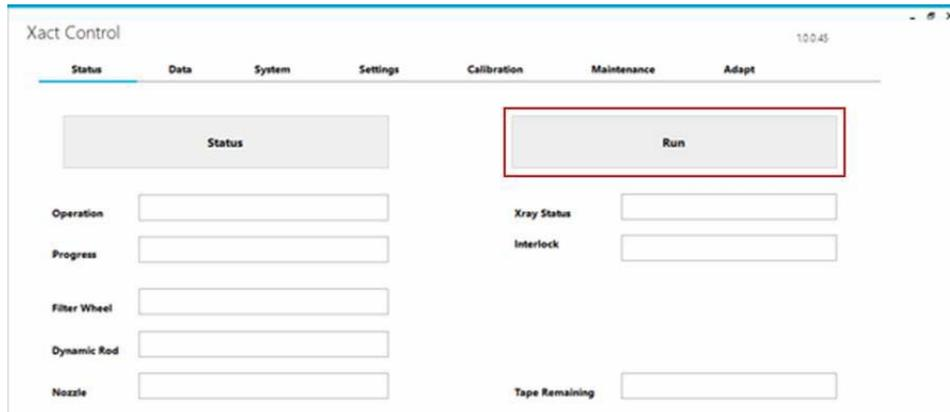

Figure 7.2: Setting Xact 625i to Run mode
7.9 To set Xact 625i to begin sampling, navigate to home screen (Xact Control>> Status). Click on the “Run” button (Figure 7.2).